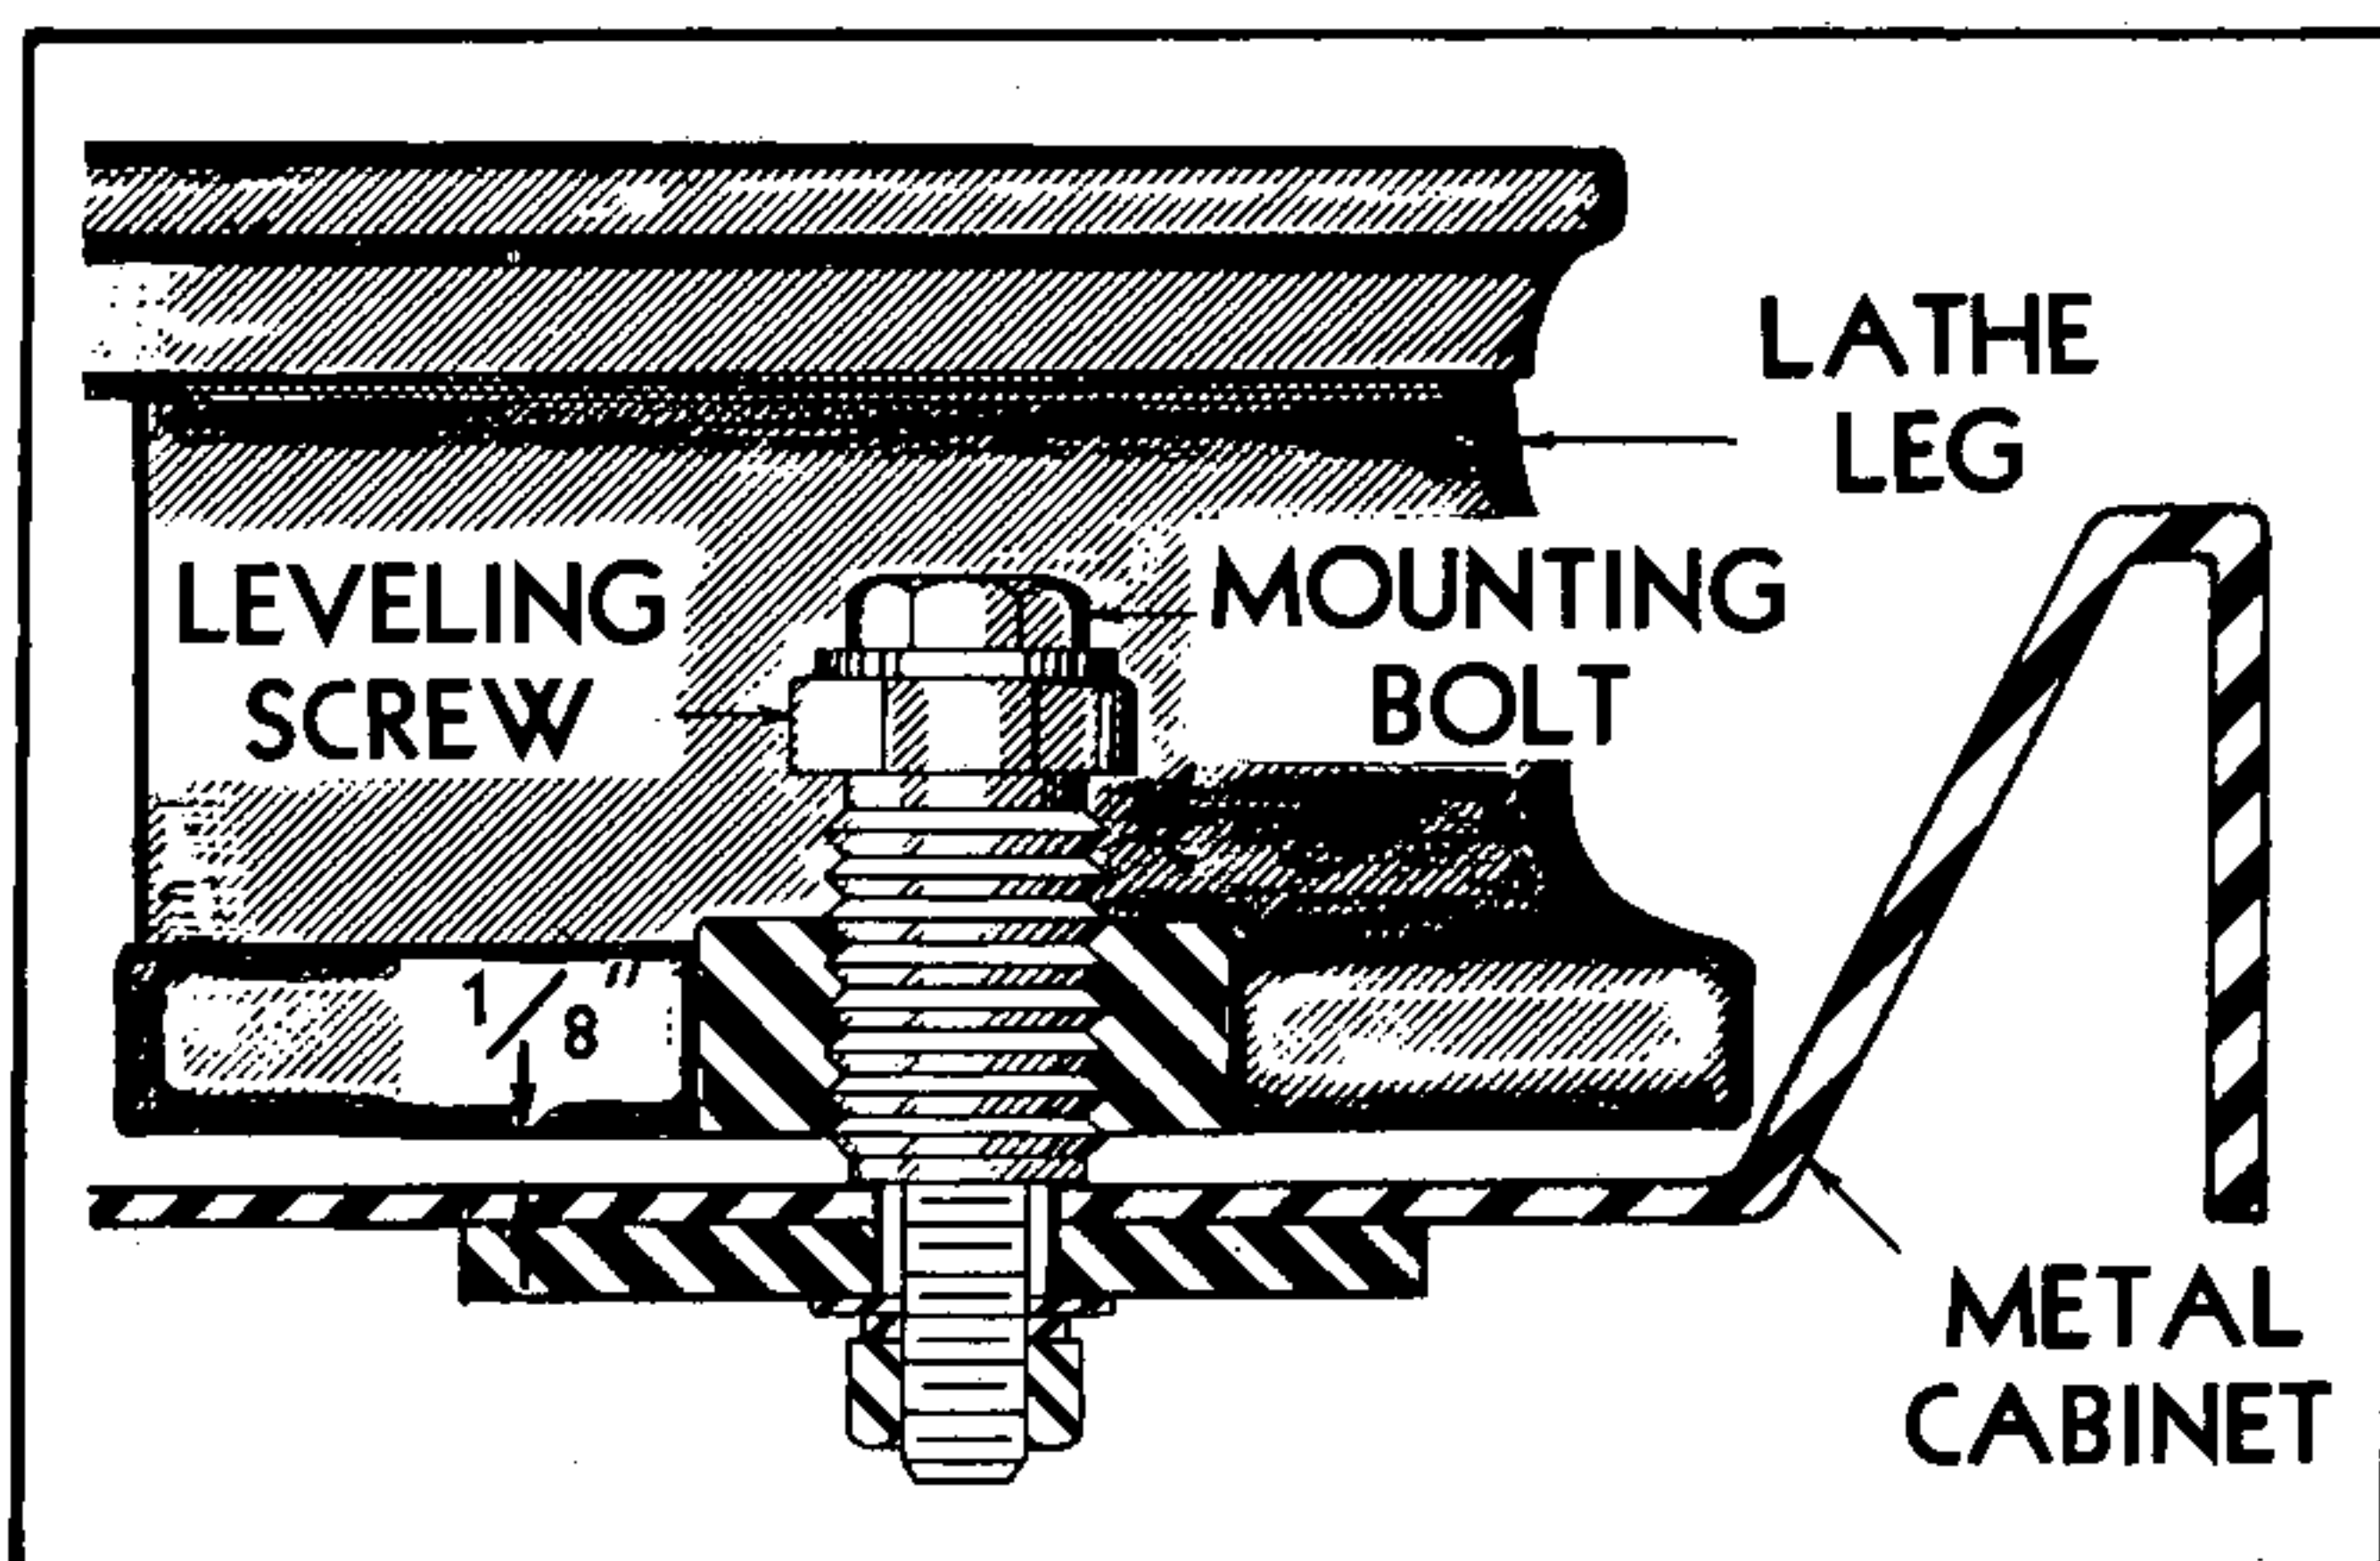

Fig. 3 The four leveling screws furnished with lathe will quickly and accurately level the lathe.
1. Screw down the four leveling screws, raising the lathe so that lathe legs at no point touch cabinet top — approximately $\frac{1}{8}$ " clearance is sufficient — See Figure 3.
5. Level readings in both positions must be identical. Compensate variations of bubble readings by turning the leveling screws until lathe is level — see Figure 3.
6. Now tighten the four mounting bolts securely — see Figure 3.